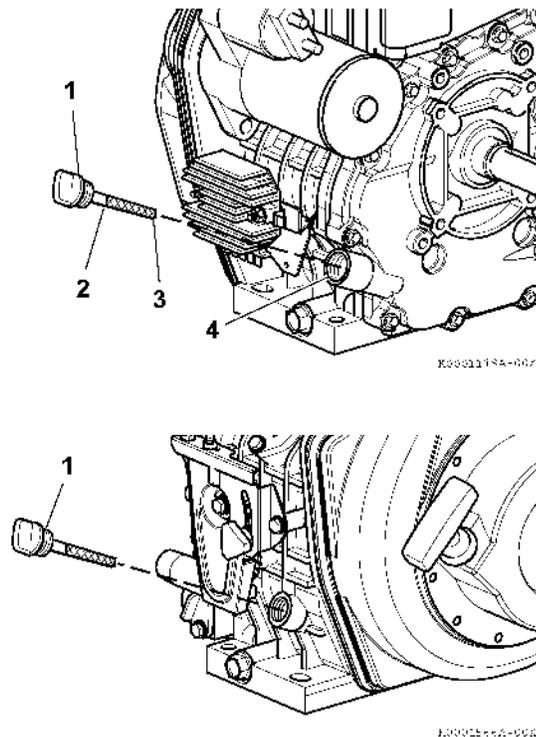

Figure 39
- Add engine oil until the level is between the upper (2, **Figure 39**) and lower (3, **Figure 39**) lines on the oil cap/dipstick (1, **Figure 39**). See *Adding Engine Oil* on page 29.
13. Replace the oil cap/dipstick (1, **Figure 39**) and tighten by hand. Over-tightening may damage the cap. If any engine oil is spilled, wipe it away with a clean cloth.